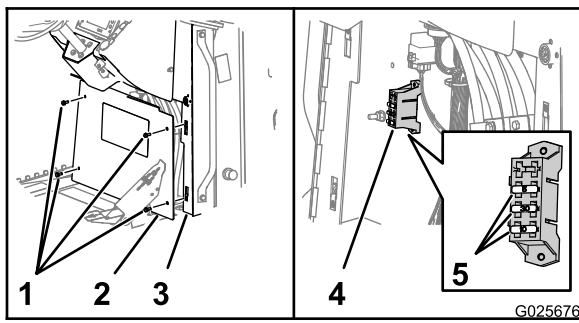

Figure 81
3. Remove the 4 hex-flanged bolts (5/16 x 3/4 inch) that secure the cover to the console and remove the cover (Figure 81).
4. Locate the open fuse and replace it with a fuse of the same type and amperage (Figure 81).
6. Align the hole in the cover with the nut clips on the flanges of the console (Figure 81).